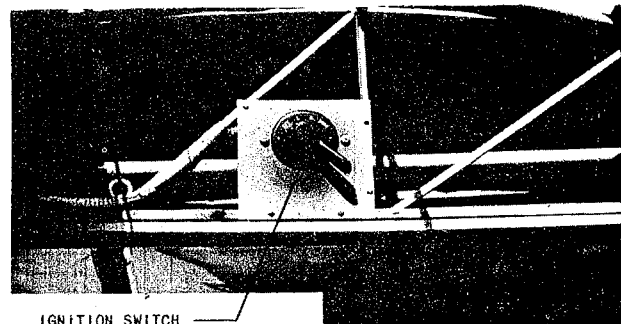

Figure 17—Upper Right Side of the Cockpit, Model L-4H
d. UPPER RIGHT SIDE. (See figure 17.)—Only one model, the L-4H, has any operating equipment located on the upper right side; this is the ignition switch which is installed over the upper enclosure door.